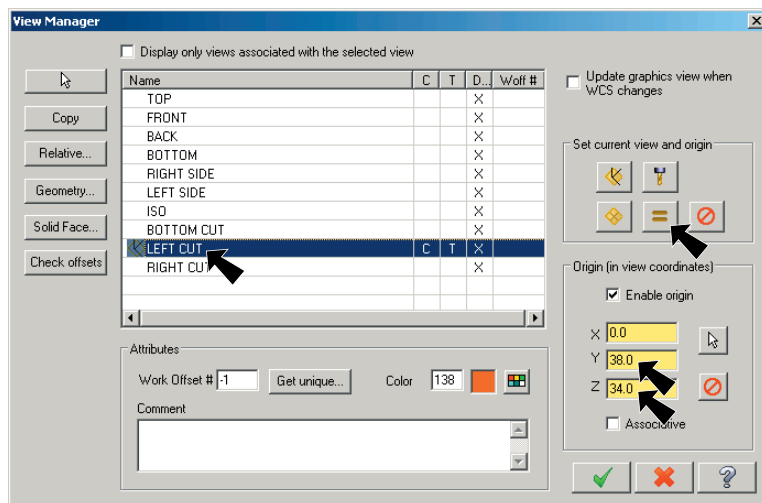

Fig. 3
Step 2. Click the **LEFT CUT** view from the list of views in the View Manager, **Fig. 3**.
Step 3. Click the Set All button  and click OK , **Fig. 3**.